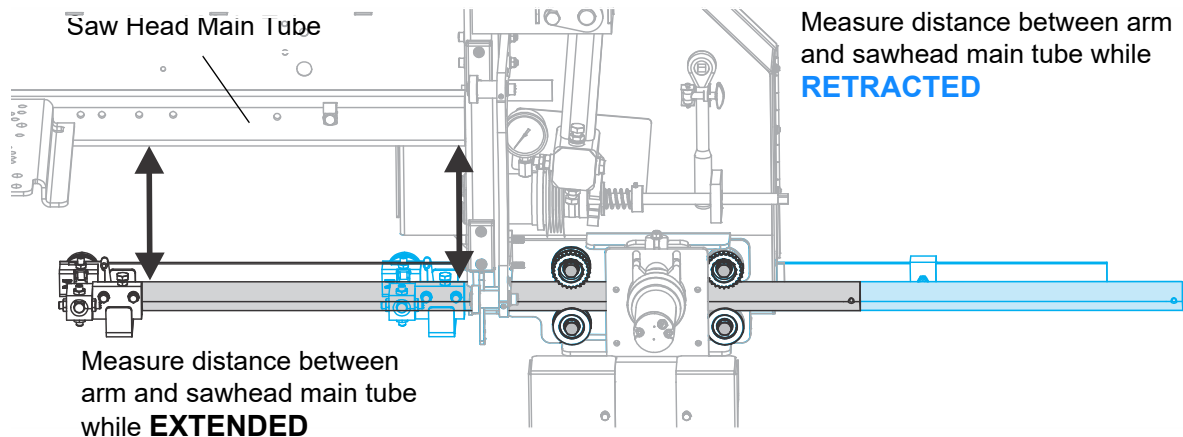

FIG. 7-1
4. Adjust the blade guide arm to within 1/2" (13 mm) of fully retracted (blue/right position in Figure 7-1)
5. Measure the distance between the saw head main tube and the blade guide arm. See Fig. 7-1.
7. Measure the distance between the saw head main tube and the blade guide arm. See Fig. 7-1.
See Figure 7-1.
9. Fully extend the blade guide arm. See Fig.7-1.